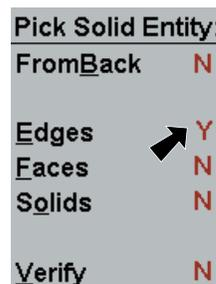

Fig. 29
Step 5. Click Edges to **Y** and others **N**, **Fig. 29**.